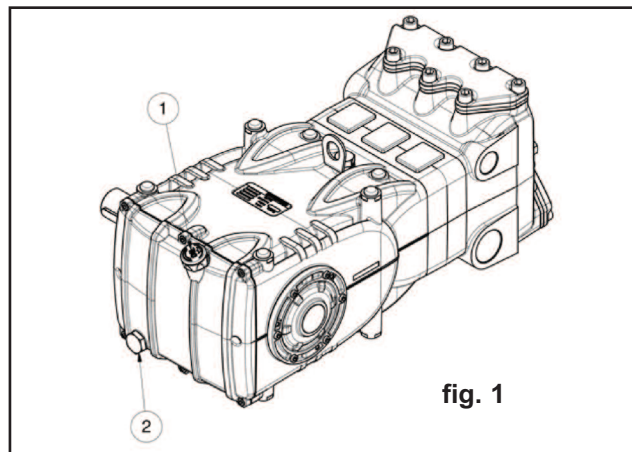

fig. 1
Crank mechanism repair operations must be carried out after draining the oil from the crankcase. To drain the oil, remove the oil dipstick (1), and then the plug (2), in fig. 1.